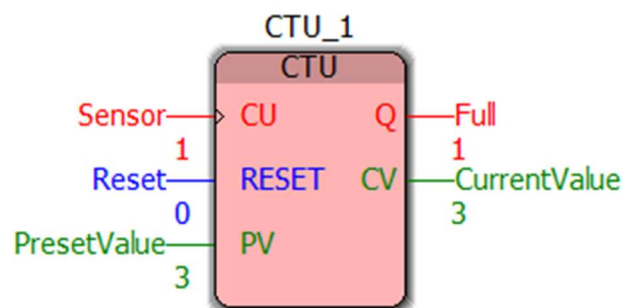

Figure 25: CTU Block Full
- Repeat the overwrite of the sensor until the Counter block is full and resembles Figure 25, then show to the instructor.